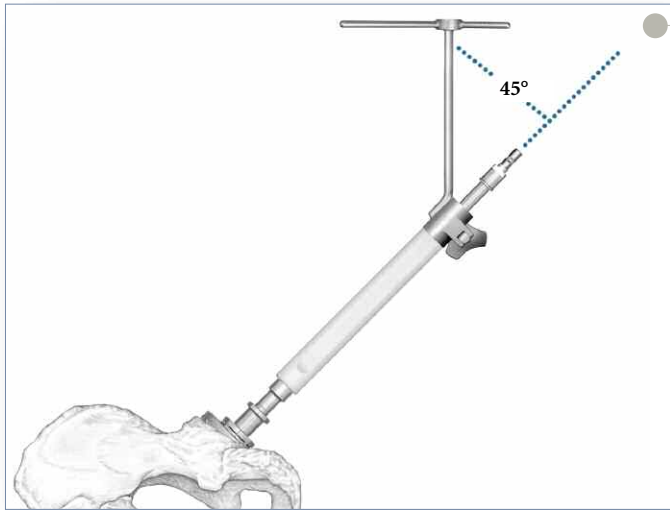

Figure 3
- ▶ The alignment guide, when perpendicular to the long axis of the patient, will orient the reamer handle at 45° of abduction, thereby placing the axis of the spherical reamer at 45° of inclination (**Figure 3**). The reamer handle may be positioned at 20° of anteversion by aligning the left/right anteversion rod on the alignment guide so that it is parallel to the long axis of the patient.